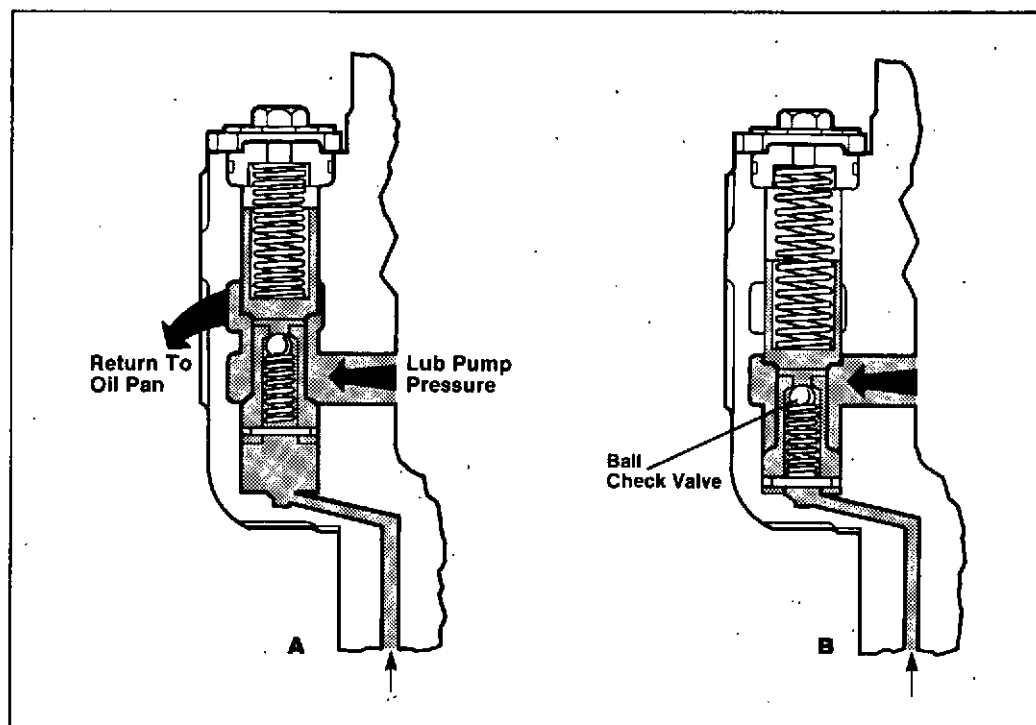

Fig. 7-12. NTE Oil Pump Pressure Regulator.
The pressure regulator is a checkball valve and is located in the front part of the pump body. It is operated by oil pressure from the pump and oil pressure from the main oil passage (oil rifle) of the engine. Fig. 7-12 (A) shows the position of the regulator when the engine is first started and the oil temperature is less than its normal operating temperature. Fig. 7-12 (B) shows the position of the regulator when the oil temperature is at normal operating temperature.